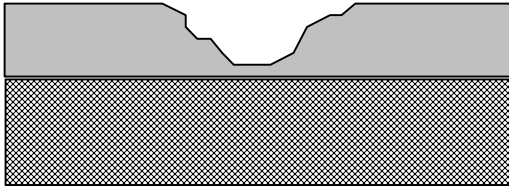

Figure 7: Dewatered and Cleaned Pothole (4)
- Remove water and debris from the hole. Figure 7 illustrates a hole that has been dewatered and cleaned of debris. Depending on the size of the pothole, this may be accomplished manually with a pick and shovel or with various combinations of power equipment, i.e., a pneumatic hammer and shovel, backhoe, or front-end loader. Cold milling equipment can also be very effective for this operation.